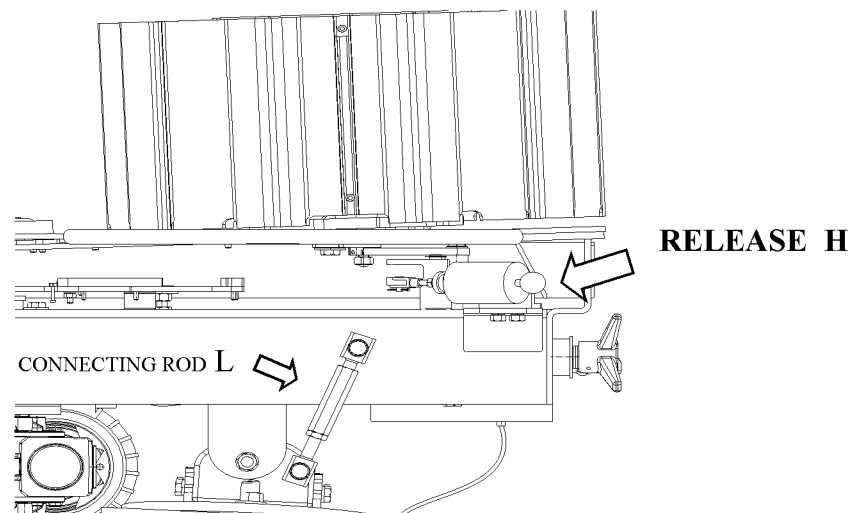

Fig. 6
- c. To proceed releasing through the spherical handle bar placed on the left part of the machine (Release H in fig. 6)
The regulation have to be effected acting on the connecting rod L (fig. 6) placed on the left side of the machine .